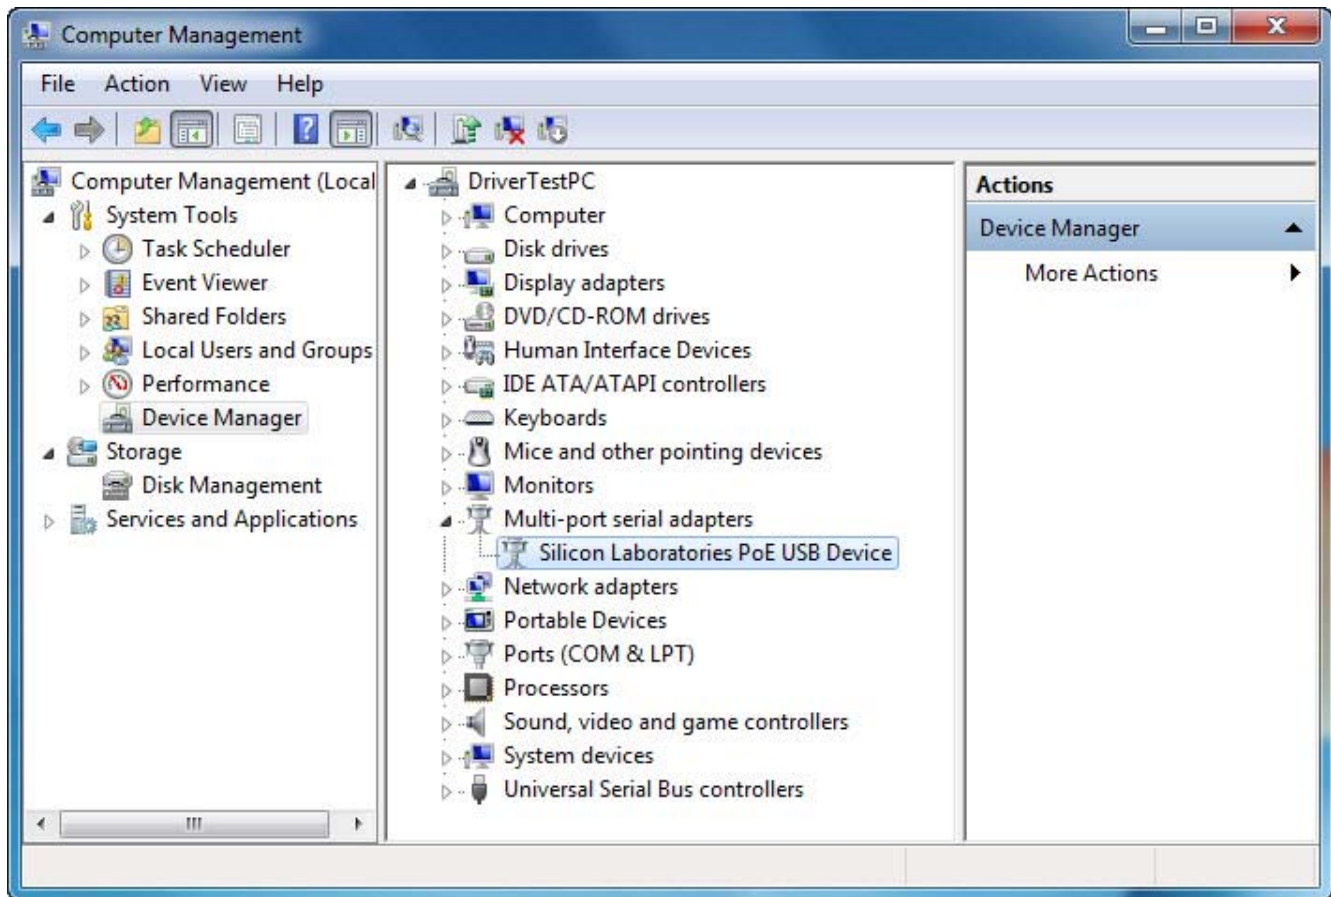

Figure 36. Device Manager
2. Select “Hardware” and click Device Manager. The screen shown in Figure 36 will appear.
- Updated Figure 36 on page 37.